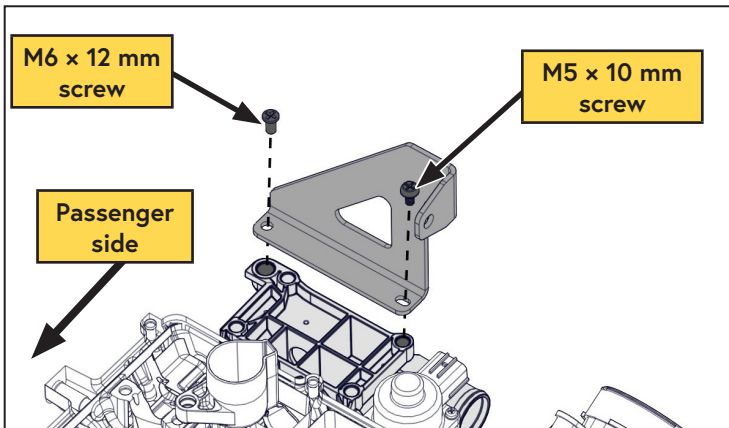

Figure 28 — P-clip bracket
- Install the P-clip bracket using the supplied Phillips head cap screws (Figure 28).